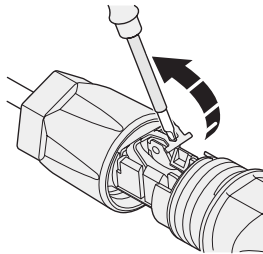

Figure 5-17
③ Use a flathead screwdriver to open the clamping bracket in the connector, as shown in Figure 5-17: